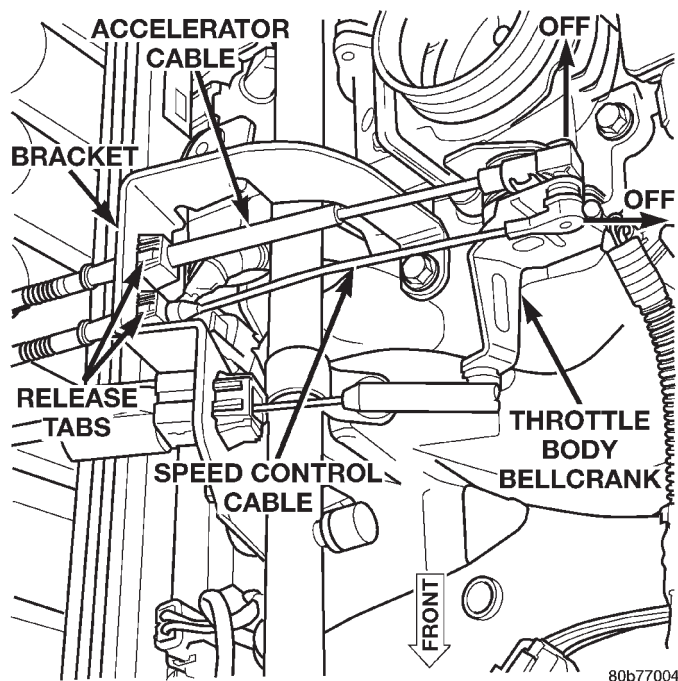

Fig. 4 Speed Control Cable at Bell Crank—4.0L Engine
- (1) Disconnect negative battery cable at battery.
- (2) Remove air box housing from throttle body.
- (3) Using finger pressure only, remove speed control cable connector at throttle body bellcrank pin by pushing connector off bellcrank pin towards drivers side of vehicle (Fig. 4). **DO NOT try to pull connector off perpendicular to the bellcrank pin. Connector will be broken.**
- (4) Remove cable from cable guide at top of valve cover.
- (5) Squeeze 2 release tabs (Fig. 4) on sides of cable at bracket and push cable out of bracket.
- (6) Remove servo cable from servo. Refer to Speed Control Servo Removal/Installation in this group.